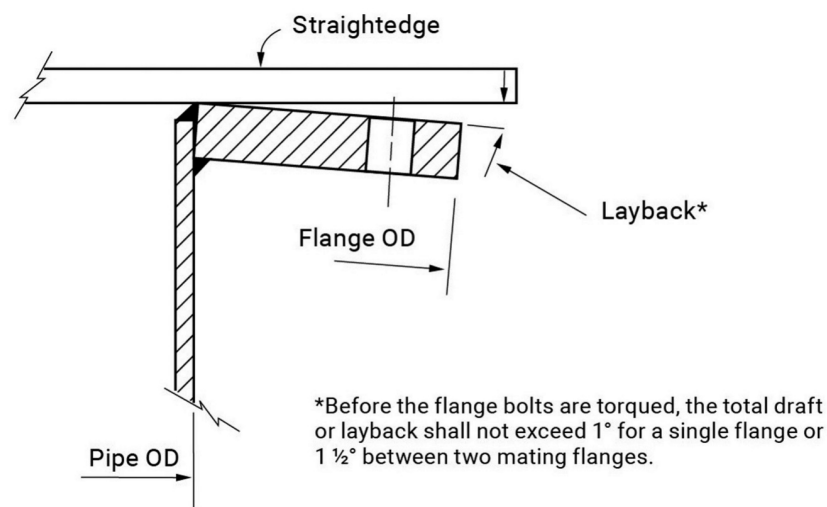
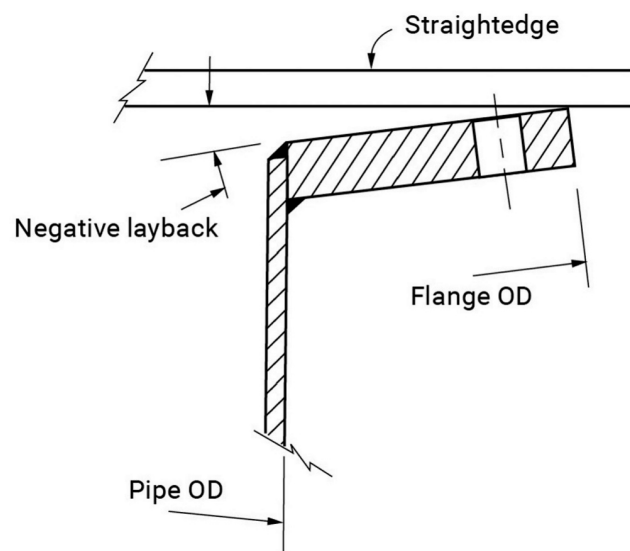

Figure 2 Draft or layback measurement
Figure 3 Negative draft or layback
4.3.3 *Draft or layback tolerance.* After welding of the flange has been completed, a draft or layback of the flange face may occur as shown in Figure 2. Total draft or layback shall not exceed 1 degree for a single flange or 1½ degrees between two mating flanges. Negative draft or layback as shown in Figure 3 shall not be permitted.